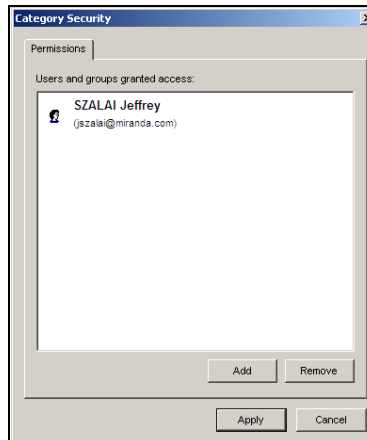

Figure 19-53. The Category Security dialog box lists the users and/or groups who have permission
- Click the **OK** button and the **SELECT USERS OR GROUP** dialog box closes. The **CATEGORY SECURITY** dialog box now lists the users and/or groups that have permission to view and interact with the assets in this category (figure 19-53).